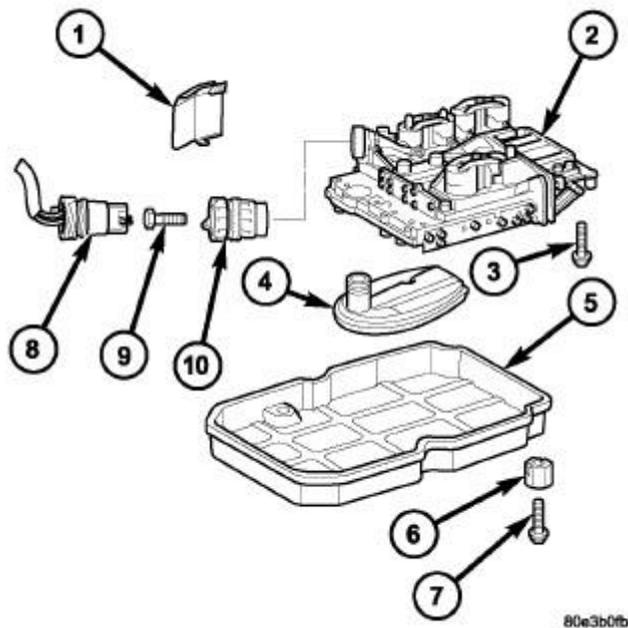

Fig. 242: Electrohydraulic Unit Components
4. Loosen the adapter plug bolt (9) and remove from the adapter plug (10) from the transmission housing. Refer to **Fig. 242**.
5. Detach oil pan (5).
6. Remove oil filter (4).
7. Unscrew Torx® socket bolts (3) and remove electrohydraulic control module (2).